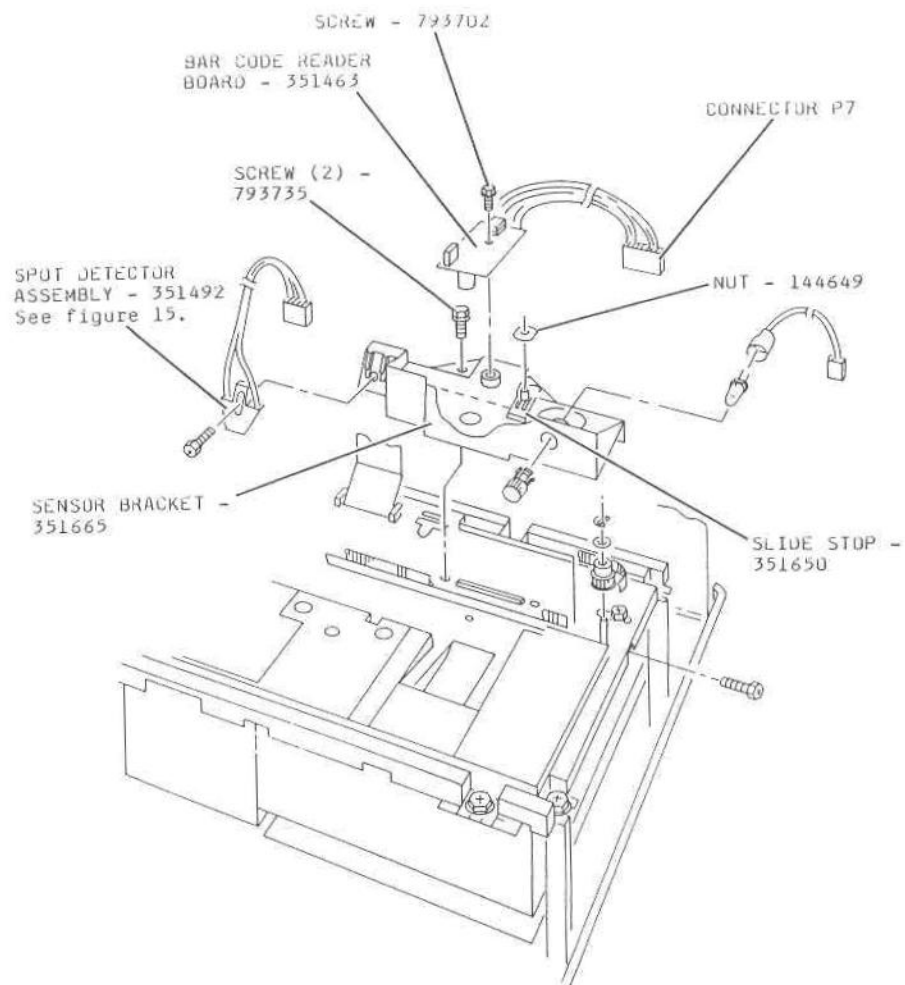

Figure 14
- [2] Remove the 2 SCREWS and move the SENSOR BRACKET toward the back of the DTSC MODULE. See figure 14.